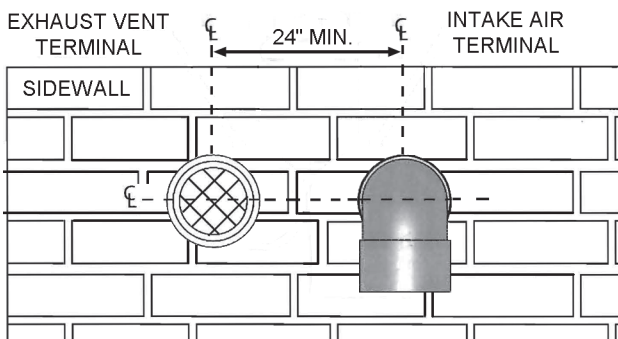

FIGURE 16B
6. If the vent pipe is installed up to the wall, with a coupling on the end against the wall opening, the pipe with the vent terminal can be prepared for gluing before inserting through the wall. Slide the pipe through the wall and insert into coupling on the other side of the wall, making sure that the vent terminal ends up pointed in the correct position (Figure 16B and 17).